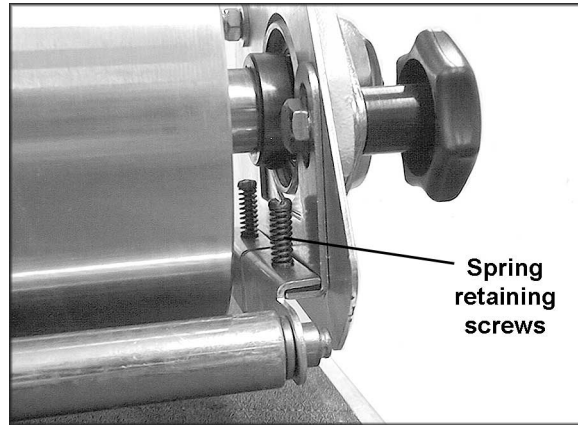

Figure 34
**Method 1:** Loosen spring retaining screws (Figure 34). Do not disengage screws entirely.